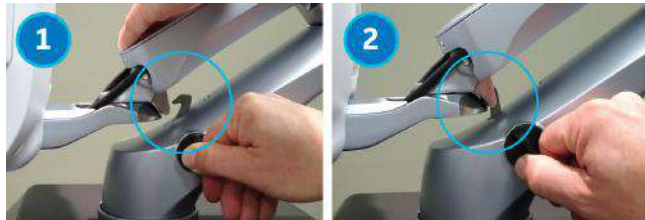

Figure 3-35. Unlock/Lock the monitor arm
1. Turn the release knob clockwise to unlock the monitor. The monitor can be moved freely in all directions (Figure 3-35 1).
2. Turn the release knob clockwise to raise the lock and move the monitor into the parked position, then turn the lock counterclockwise to lock. (Figure 3-35 2).